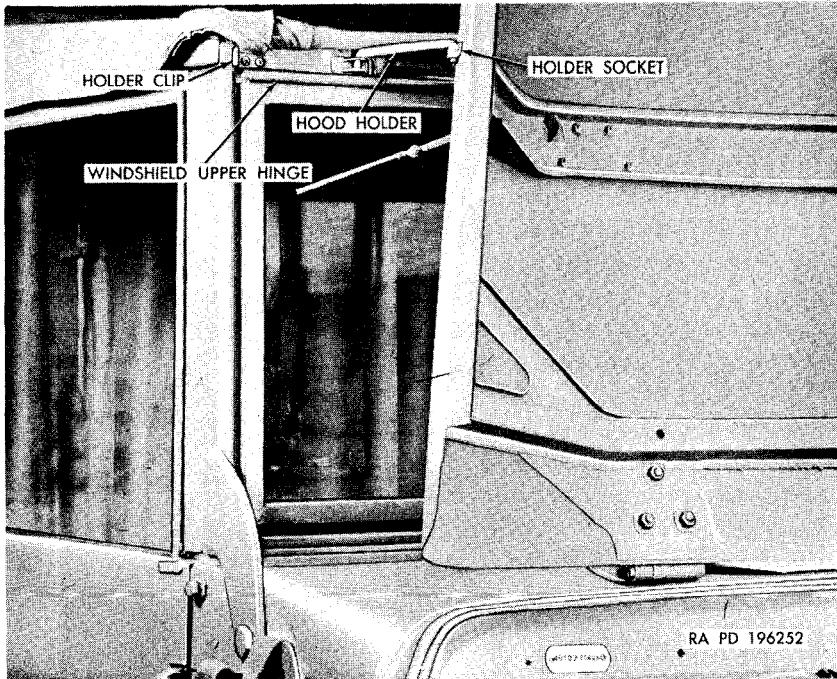

Figure 16. Hood in open position.
b. *Hood Holder.* The hood holder secures the hood in the wide open position (fig. 16). To use the holder, disengage it from the hood holder clip (fig. 16), raise the hood, and engage the holder in the hood holder socket.